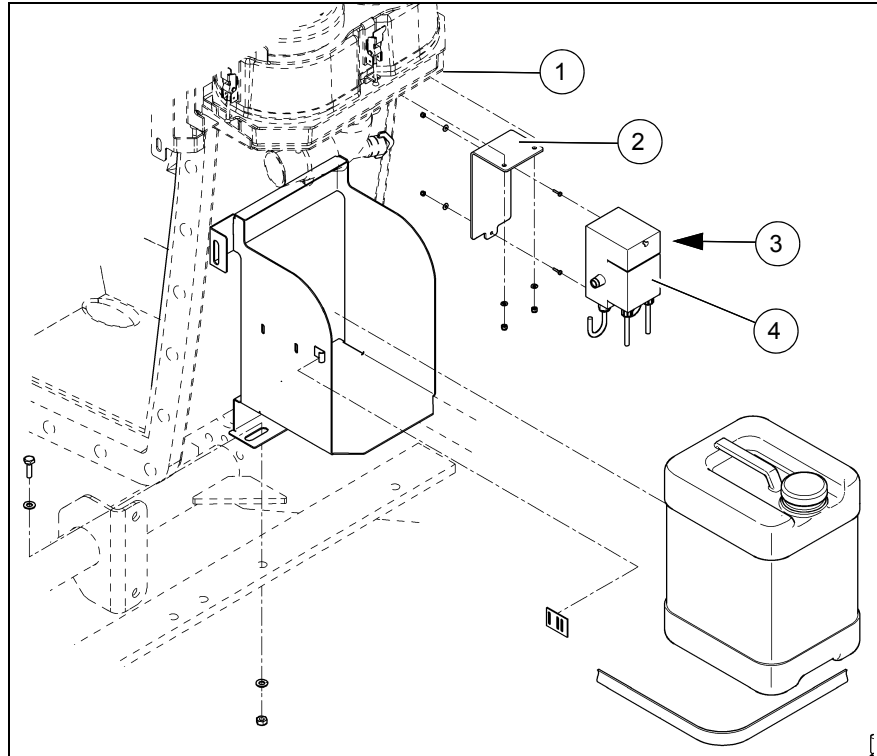

Fig.3
1. Assemble the dosing pump (Fig. 3/4) on the holder (Fig. 3/2), possibly pre-mounted.
2. Mount the holder (Fig. 3/2) on the stay bolt of the holder (Fig. 3/1).
3. Clean the surface (Fig. 3/3) of the dosing pump and apply the quick emptying label.